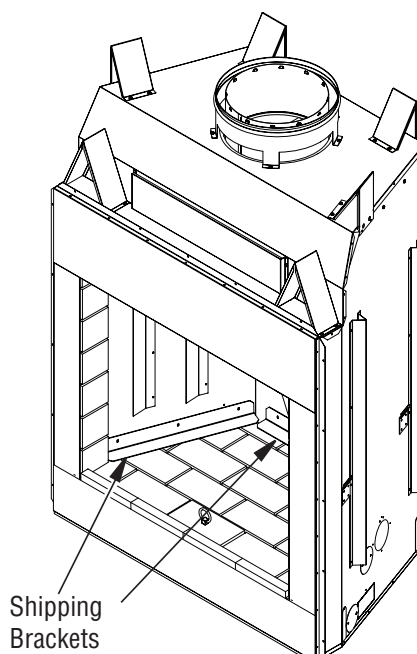

Figure 31 - Removing Shipping Brackets
1. The fireplace is shipped with the hearth preinstalled. It is held in place for shipping with 3 shipping brackets (Figure 31). Remove these brackets before installing any of the other firebrick walls.